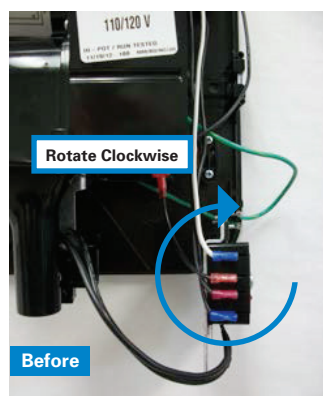

Figure 2-12A
Step 2-9. Rotate the Control **clockwise** as shown in **Figures 2-12A & 2-12B**. Rotating the Control this way will properly position the wires without having to disconnect and re-connect them.